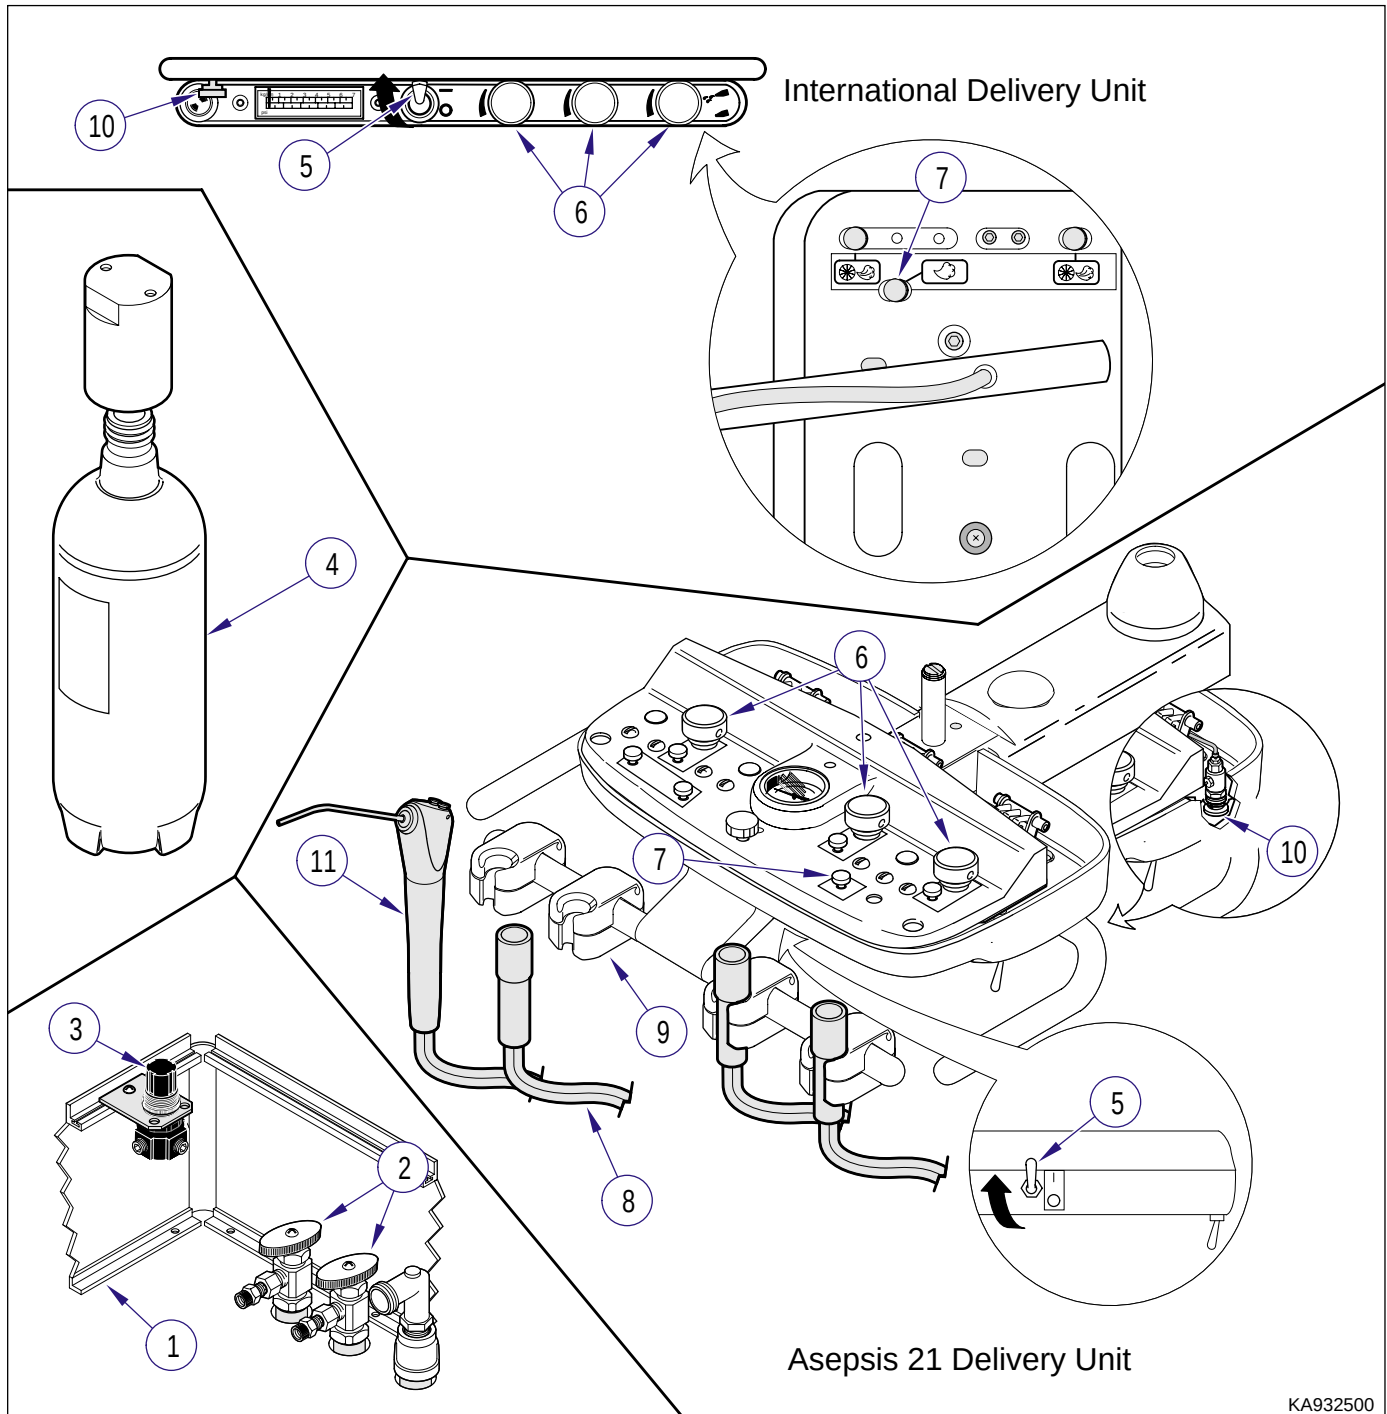

Figure 4-7. Delivery System Purge/Test Procedure
- (1) Before connecting handpieces, turn on the air, water, and vacuum utilities to the junction box (1, Figure 4-7).
- (2) Open air and water shut-off valves (2) in junction box (1).